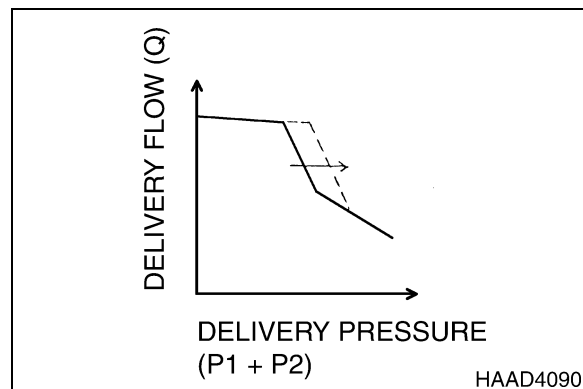

Figure 27
Adjust it by loosening the hexagon nut (630) and by tightening (or loosening) the adjusting screw C (628). Tightening the screw shifts the control chart to the right and increases the input horsepower as shown in the Figure 27. Since turning the adjusting screw C by N turns changes the setting of the inner spring, return the adjusting screw C1 (925) by NxA turns at first.